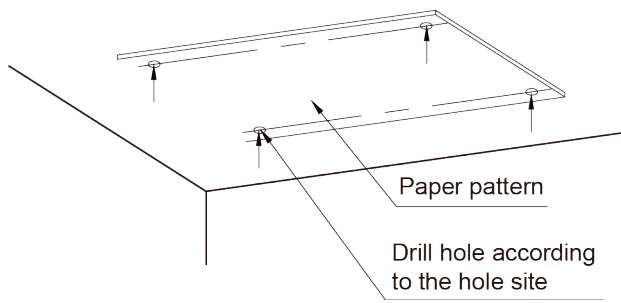
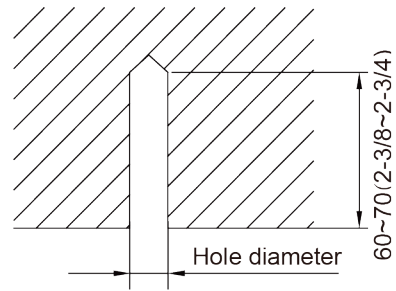

Fig. 2
Fig. 3
- 1) Stick the reference cardboard on the installation position; drill 4 holes according to the hole site on the cardboard as shown in Fig 2; diameter of drilling hole is according to the diameter of expansion bolt and the depth is 60-70mm(2-3/8~2-3/4 in.), as shown in Fig 3.